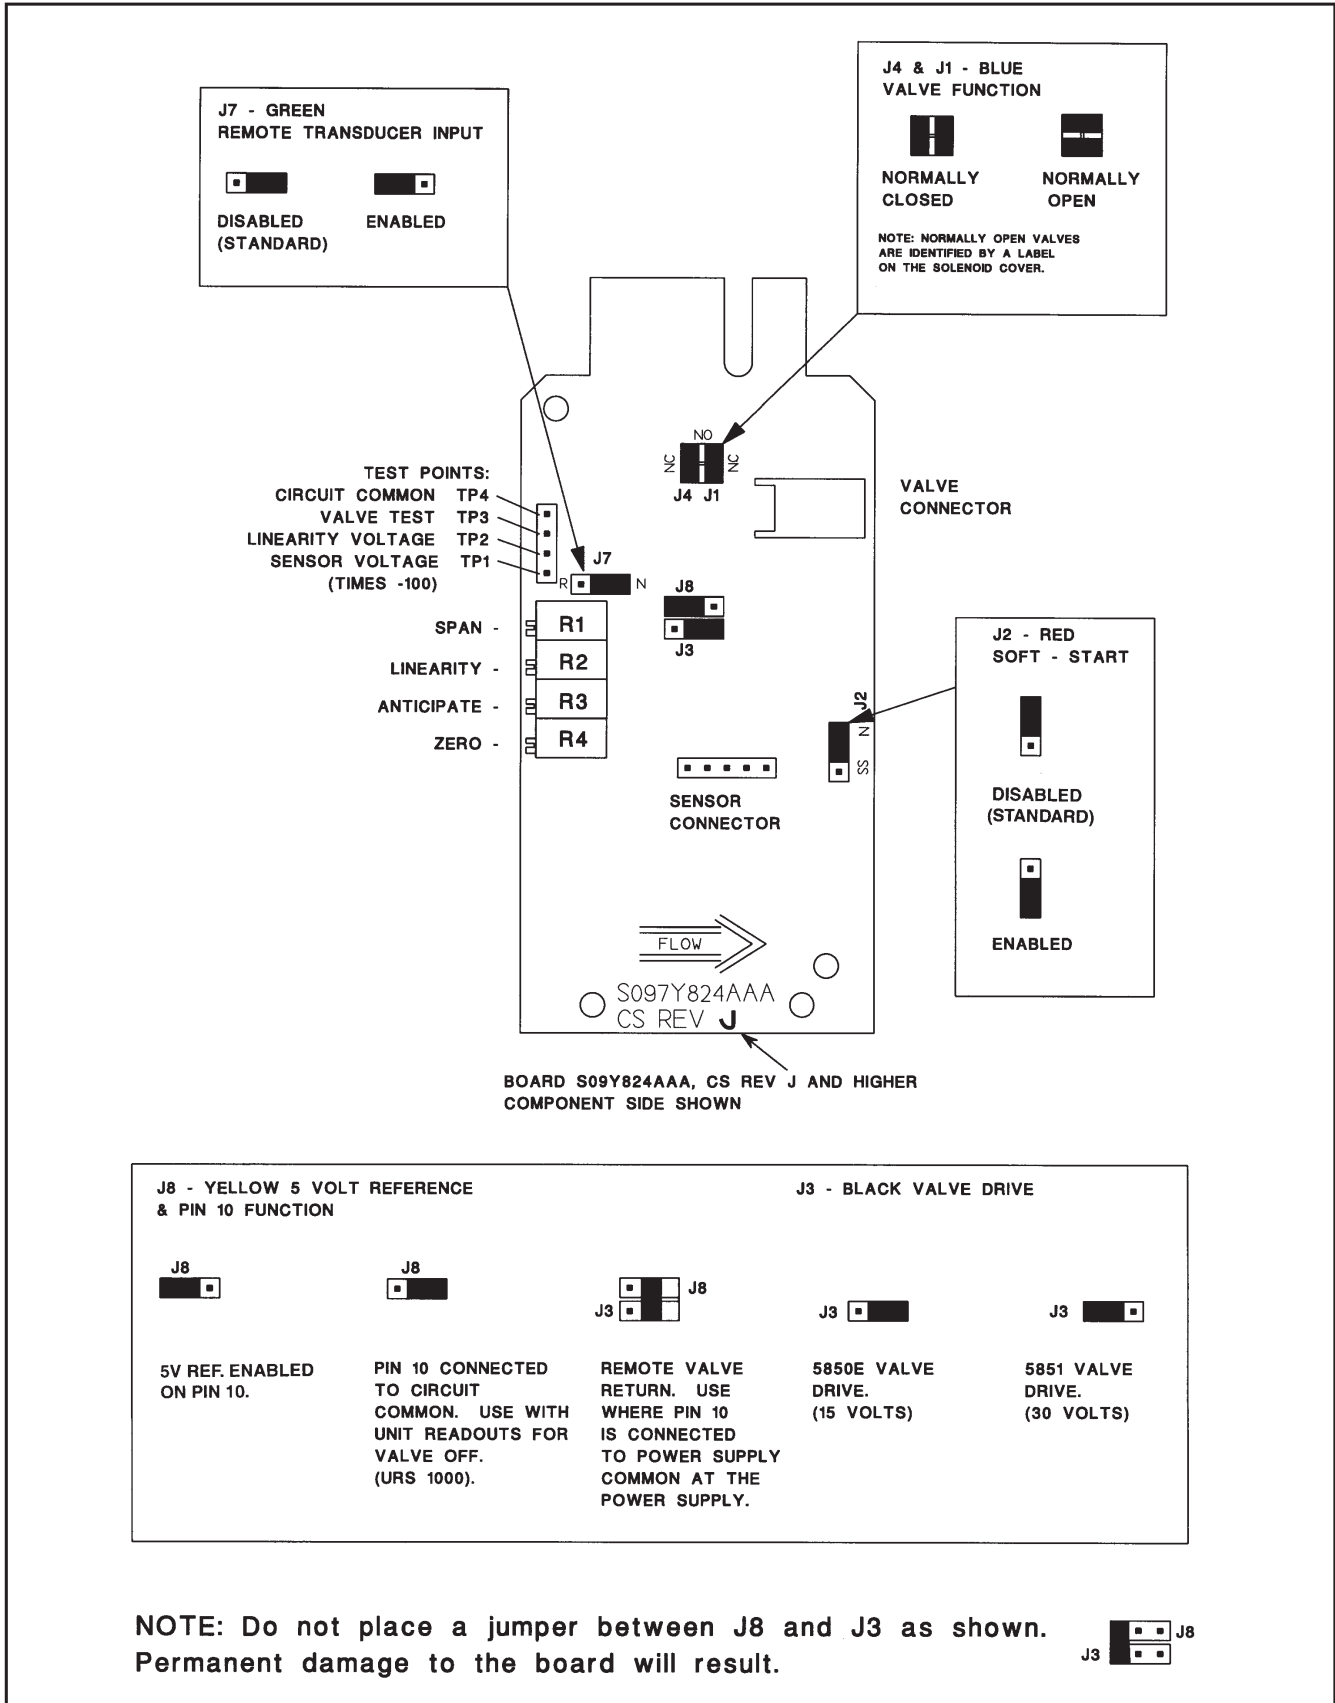

Figure 3-3 Card Edge PC Board Jumper Location and Function
Refer to Figures 3-3 and 3-4. To enable soft start, place the red jumper on the controller printed circuit board at J2 in the (ss) position.
Refer to Figures 3-3 and 3-4. To allow the Model 5850E control circuitry and valve to be used with a 0-5 Vdc external transducer signal, a green jumper is moved to the lower two pins at J7. With this feature enabled, a 0-5 Vdc signal may be applied to the external transducer input terminal. The Model 5850E controller circuitry will modulate the valve position to increase or decrease the flow rate to maintain the transducer output at the desired set-point. The control circuitry is reverse acting, e.g., for an increase in transducer output, the flow will correspondingly be decreased.
4. Verify that all user selectable jumpers are in their desired positions (refer to Figures 3-3 and 3-4).